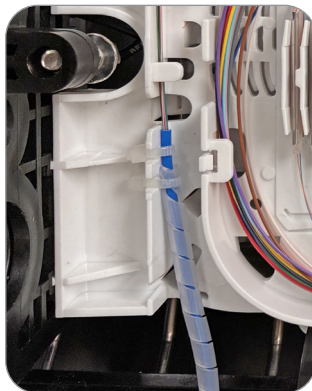

Figure 28
7. Secure the tube to the splice tray entrance using a cable tie. (Figure 28)